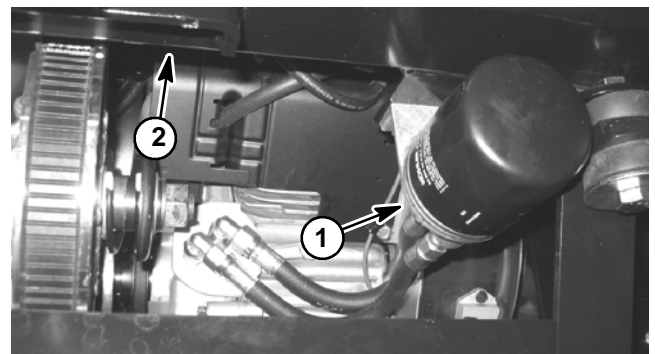

Figure 17
8. Gaining access from under operator seat, loosen two (2) flange head screws and flange nuts that secure oil filter adapter to right hand frame rail (Fig. 17). Slide adapter with oil filter away from frame.
9. Position oil filter adapter with oil filter to the right hand frame rail. Install two (2) flange head screws and flange nuts and secure oil filter adapter to machine (Fig. 17).